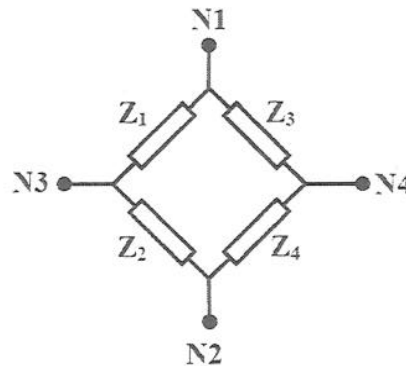

Figure 5.1: A Wheatstone bridge.
5. A DC Wheatstone bridge, shown in Figure 5.1, is used to read a low temperature platinum thermometer. The resistance of the thermometer is given by: